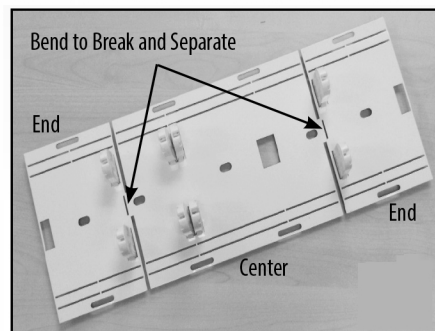

Figure 1. Preparing the Fixture Bracket Socket Plates for Installation.
4. For 8 ft "strip-type" luminaires the Fixture Bracket Kit Socket Plates are divided into three (3) sections; two (2) end sections and one (1) center section. Bend the end and center sections on the socket plates back and forth until they separate. Follow this same procedure for the opposite end of the center section. see Figure 1.